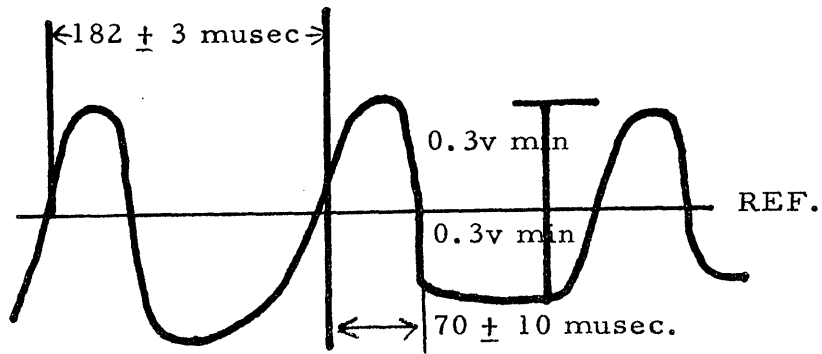

FIGURE 5-1 CP SET PULSES
A. The CP Set Pulses, Systems Diagram 02.05.05.1 should meet all requirements specified in Figure 5-1 when observed at 02A2F22G.